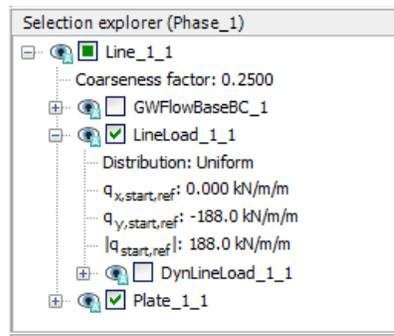

Figure 25: Definition of the load components in the **Selection explorer**
6. In the **Selection explorer** shown in Figure 25 (on page 36) assign -188 kN/m^2 to the vertical component of the line load. Note that, this gives a total load that is approximately equal to the footing force that was obtained from the first part of this tutorial. ($188 \text{ kN/m}^2 \cdot \pi \cdot (1.0 \text{ m})^2 \approx 590 \text{ kN}$).